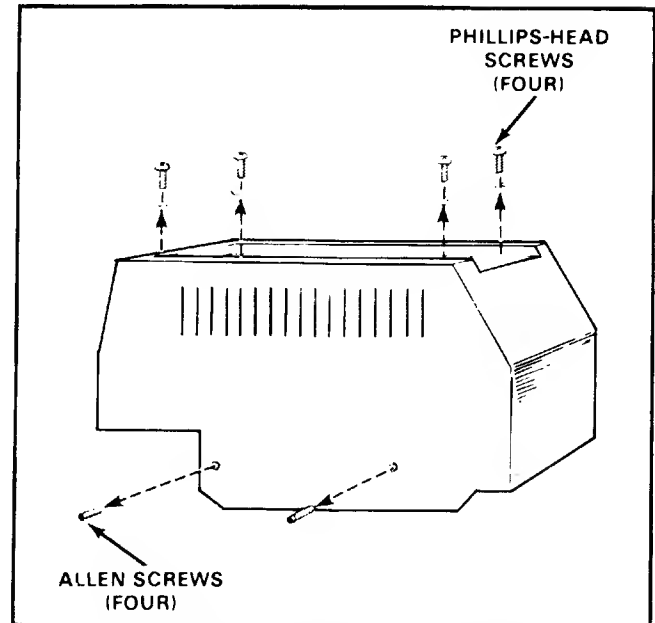

Figure 4-1. LogicPak™ Cover Removal
2. Remove the four Phillips-head screws on the top of the LogicPak™ cover (see figure 4-1).
3. Remove the two Allen screws on each side of the LogicPak™ cover (see figure 4-1).